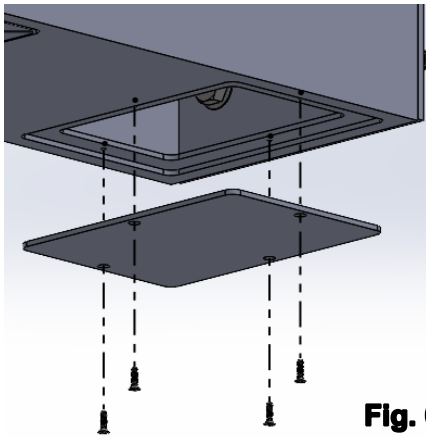

Fig. 6
- Remove the four flat head screws #6-32 x 1/2" and the aluminum cover located on the fixture. **Fig. 6**